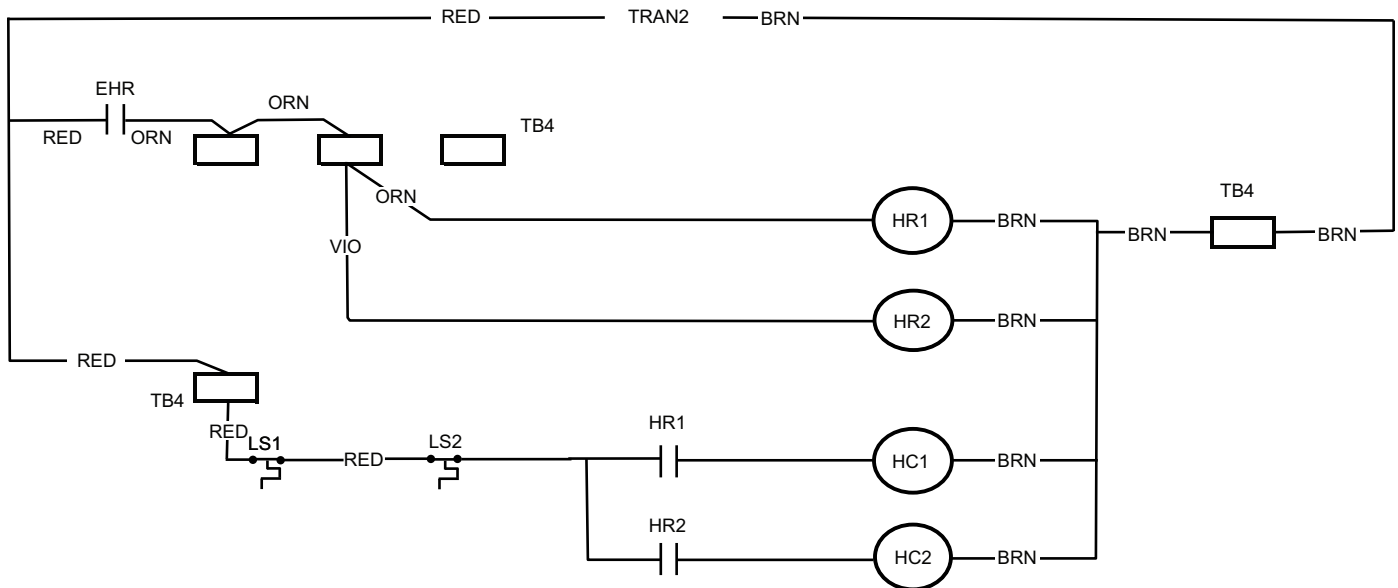

Fig. 50 — Electric Heater Control Connections - Heat Pump with CRHEATER294A00-296A00
- c. For HP units, connect ORN and VIO wires to TB4's "W2 Use" terminals. (See Fig. 50.)